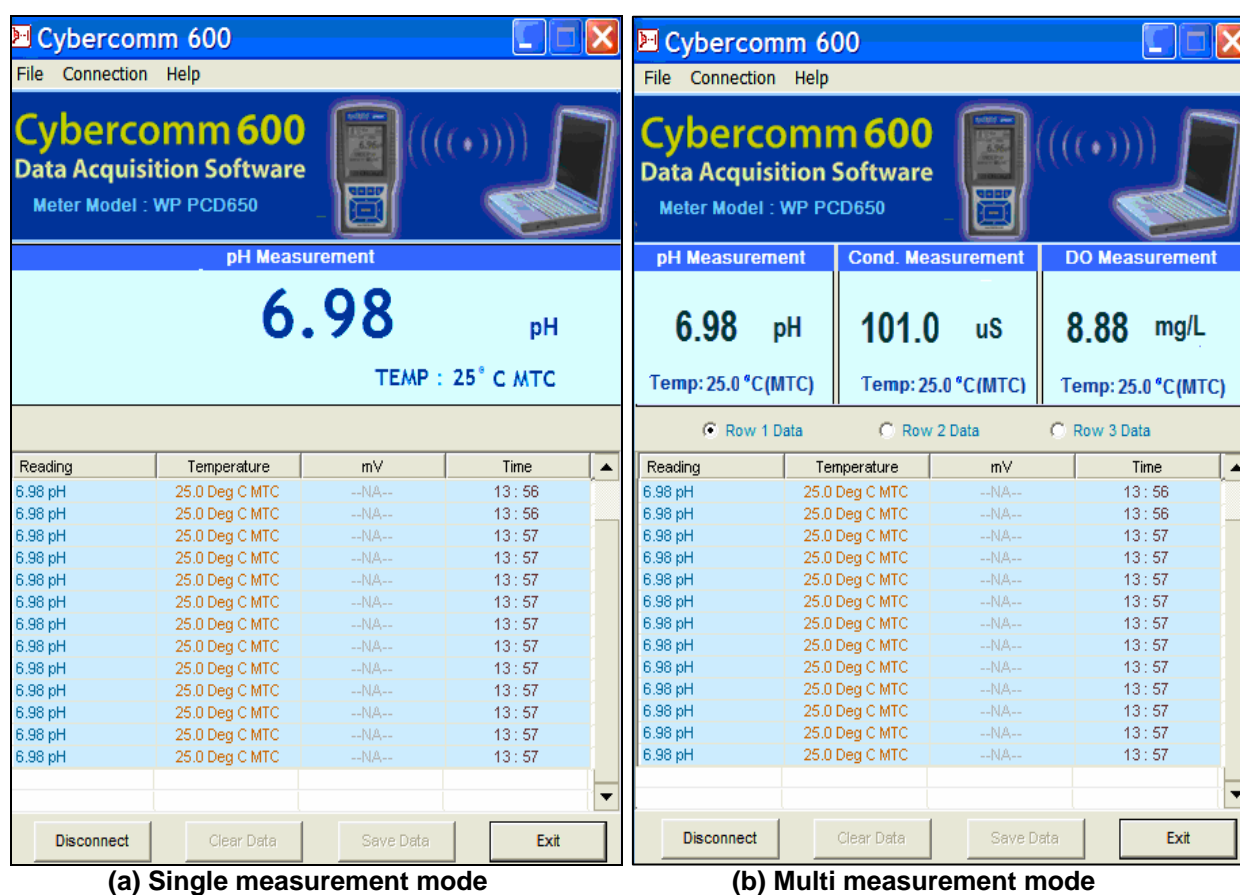

Figure 33 : Transferring measurement data continuously
6. When CyberComm finds the meter, press **Connect** button. The IrDA link is established. The measurement readings are sent to CyberComm continuously at the specified time interval as long as IrDA link is not disconnected. The transferred readings are displayed in the CyberComm screen (Figure 33).